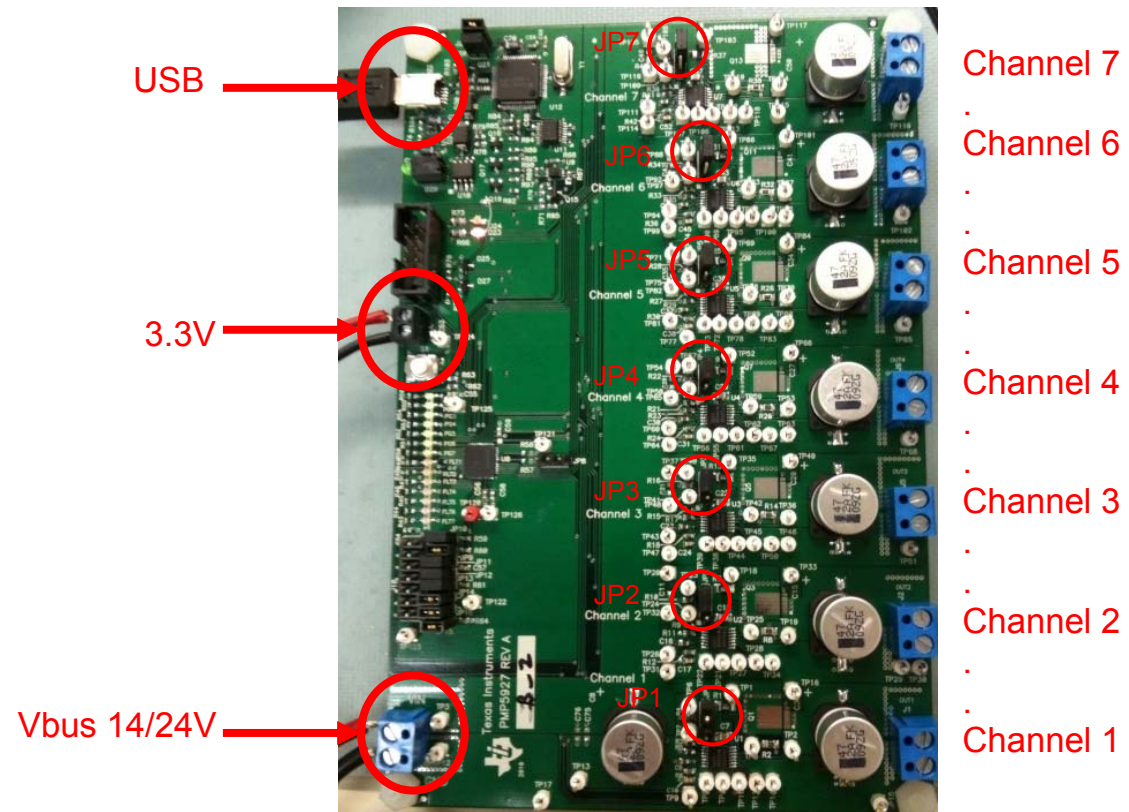

Figure 1
- 2.4** Before launching software after successful installation, insert USB into computer and board (See Figure 1). Wait for confirmation that hardware is installed and ready to use
- 2.5** Apply 3.3V to board (See Figure 1).